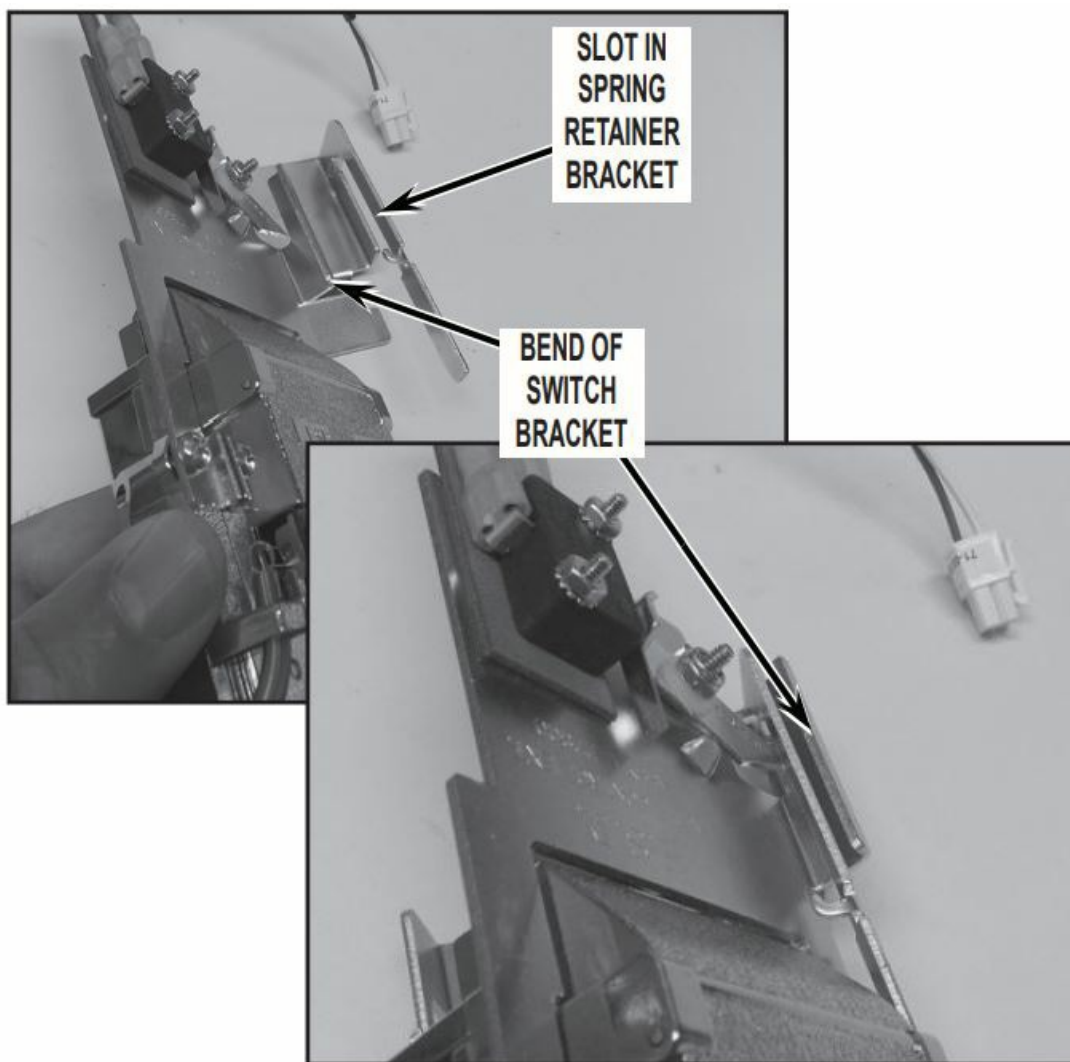

FIGURE 12
12. Align coin slide assembly over spring retainer bracket as shown. Insert the bend of the switch bracket into the slot in the spring retainer bracket. See Figure 12.